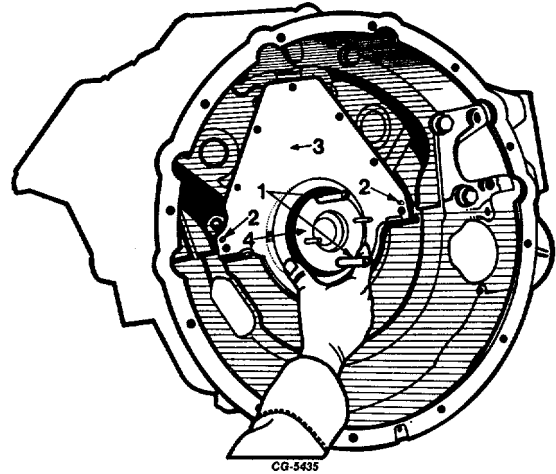

Fig. 143 Installing Retainer with Rear Oil Seal Using SE-1942-2 Pilot
10. Use SE-1942-2 Pilot to install rear oil seal and retainer with gasket on crankcase, Figure 143. Dowel pins are provided for proper alignment. Torque bolts to specified torque. See "Torque Chart."